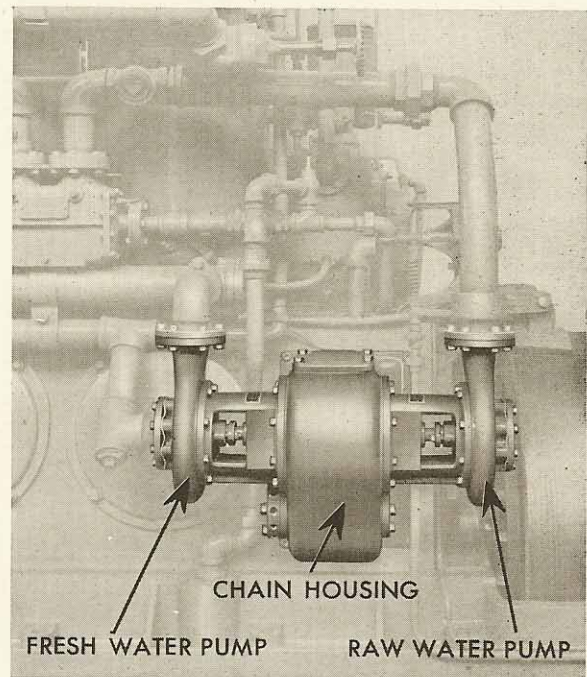

FIGURE 3-9
32. CENTRIFUGAL PUMPS: Figure 3-9 shows how the two centrifugal pumps are mounted on the engine and are driven from a